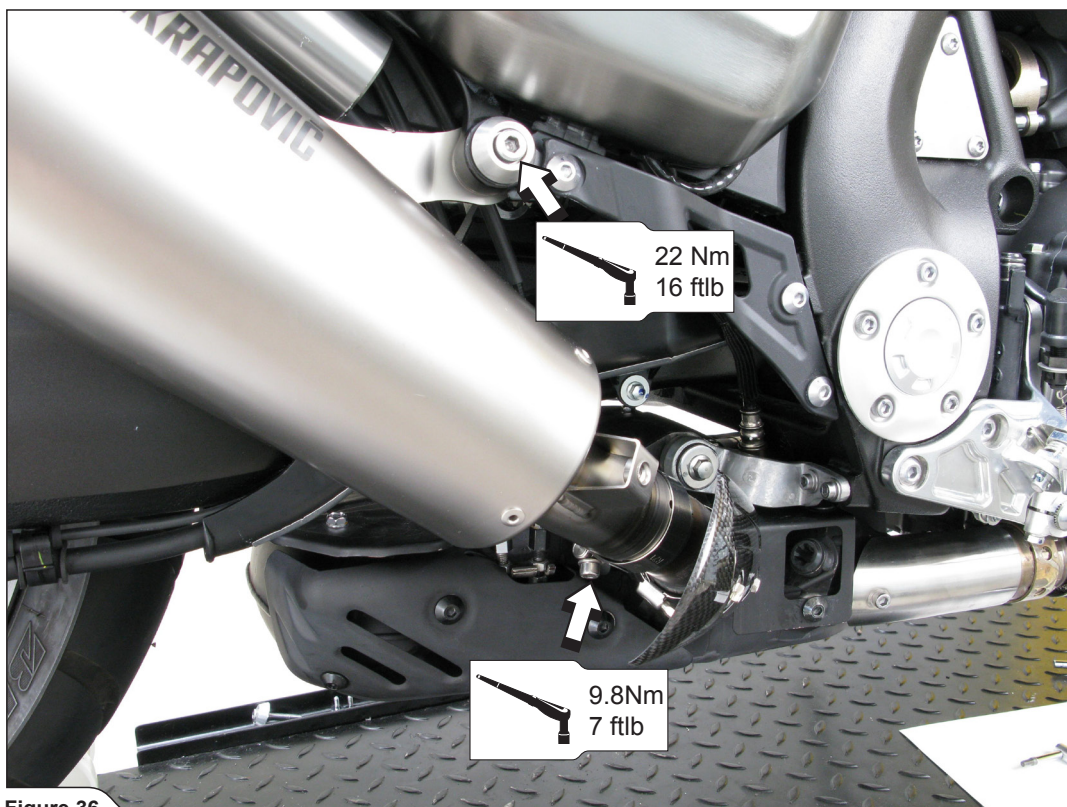

Figure 36
11. **For BOTH SLIP-ON systems:** position the mufflers correctly, slide them onto the outlet sides of the catalytic converter box or Akrapovič collector. Align the mufflers in respect to the motorcycle and tighten the metal clamps and the bolts of the muffler brackets using stock bolts and Akrapovič nuts (**Figure 36**). Tightening torque for stock muffler brackets: 22Nm/16 ftlb. Tightening torque for metal clamps: 9,8Nm/7ftlb.